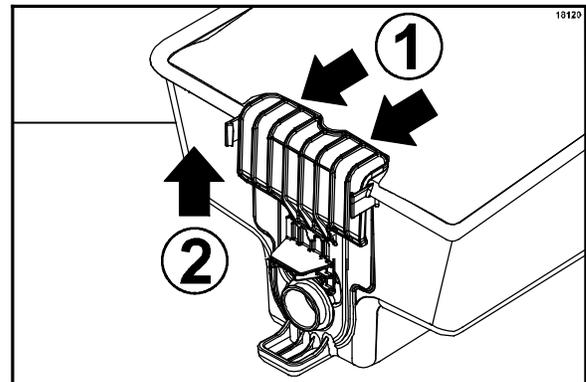

Figure 87
Note: To remove the product bag from the bin, move the product bin slide to the “open” position by (1) pulling the slide slightly away from the bin and (2) up, until it stops. (See Figure 87.)